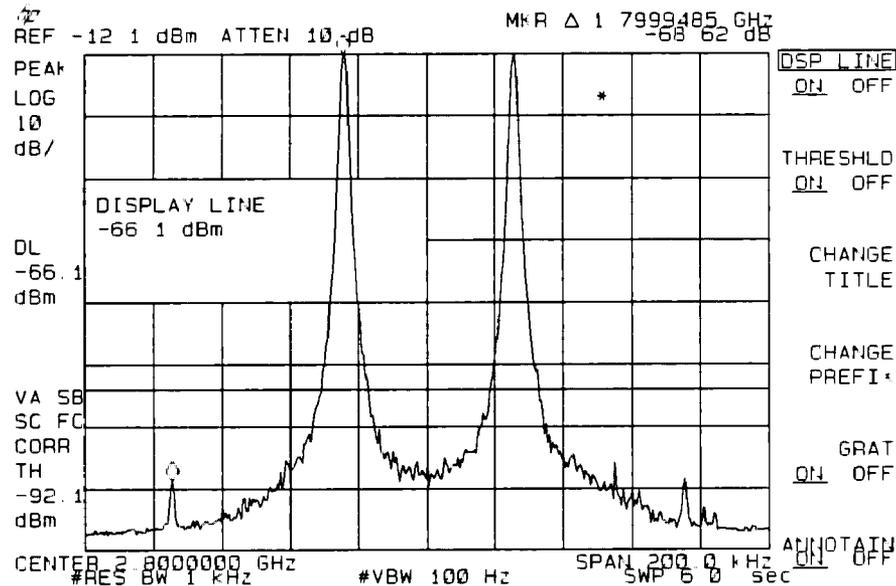

Figure 4-21. Third Order Intermodulation Distortion
40. Press **PEAK SEARCH**, **MARKER DELTA**. Press the following analyzer keys: **DISPLAY**, **DSP LINE ON OFF (ON)**. Set the display line to a value 54 dB below the current reference level setting.
41. The third order intermodulation distortion products should appear 50 kHz below the lower frequency signal and 50 kHz above the higher frequency signal. Their amplitude should be less than the display line. See Figure 4-21.
54. The third order intermodulation distortion products should appear 50 kHz below the lower frequency signal and 50 kHz above the higher frequency signal. Their amplitude should be less than the display line. See Figure 4-21.